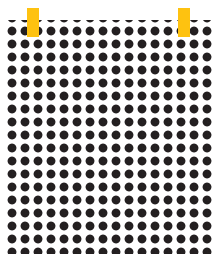

Figure 01
- › Tape the micro-perforated film into place at the top using masking tape. (FIG. 01)